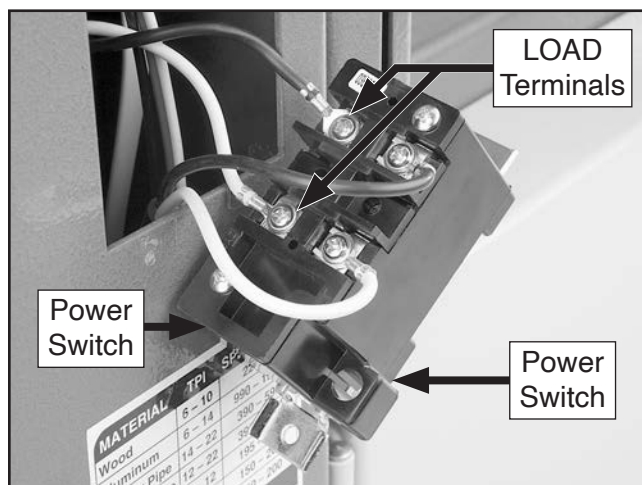

Figure 10. Location of power switch LOAD terminals.
10. Route wire end of power cord up through machine interior to power switch and connect black and white wires to LOAD power switch terminals shown in **Figure 10**.